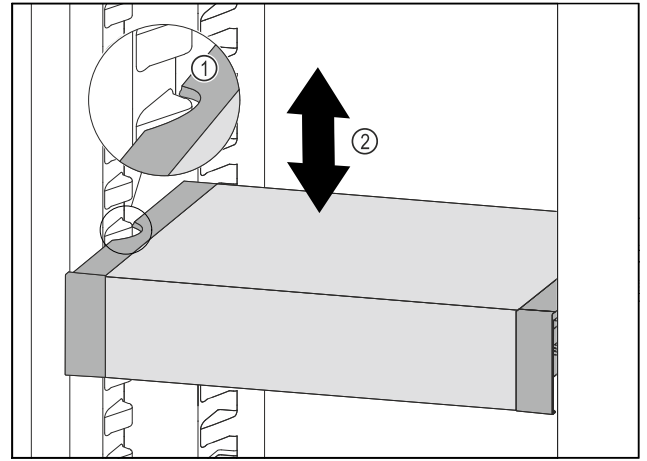

Fig. 243
- Pull VarioSafe forwards until the recesses in the side of the VarioSafe are at the level of the support rib in the refrigerator compartment. Fig. 243 (1)
- Move VarioSafe up or down in the refrigerator compartment until the desired height is reached. Fig. 243 (2)